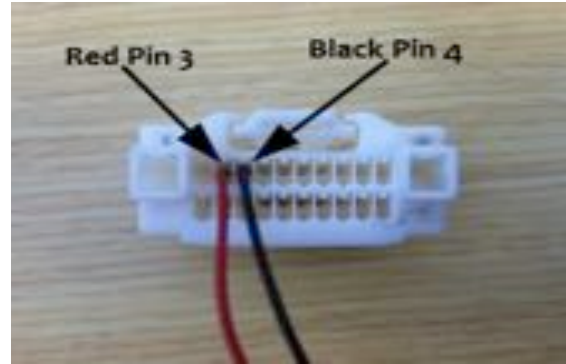

Figure 3
Note: If vehicle is NOT equipped with a 22-pin radio connector (Figure 3), use supplied white connector to complete steps 43 and 44.
62. Locate pin position 3 on the white 22-pin radio connector (Figure 3) and insert red terminal of the jumper harness until it clicks securely.
63. Insert black terminal of the jumper harness into pin position on the white 22-pin radio connector (Figure 3) until it clicks securely.